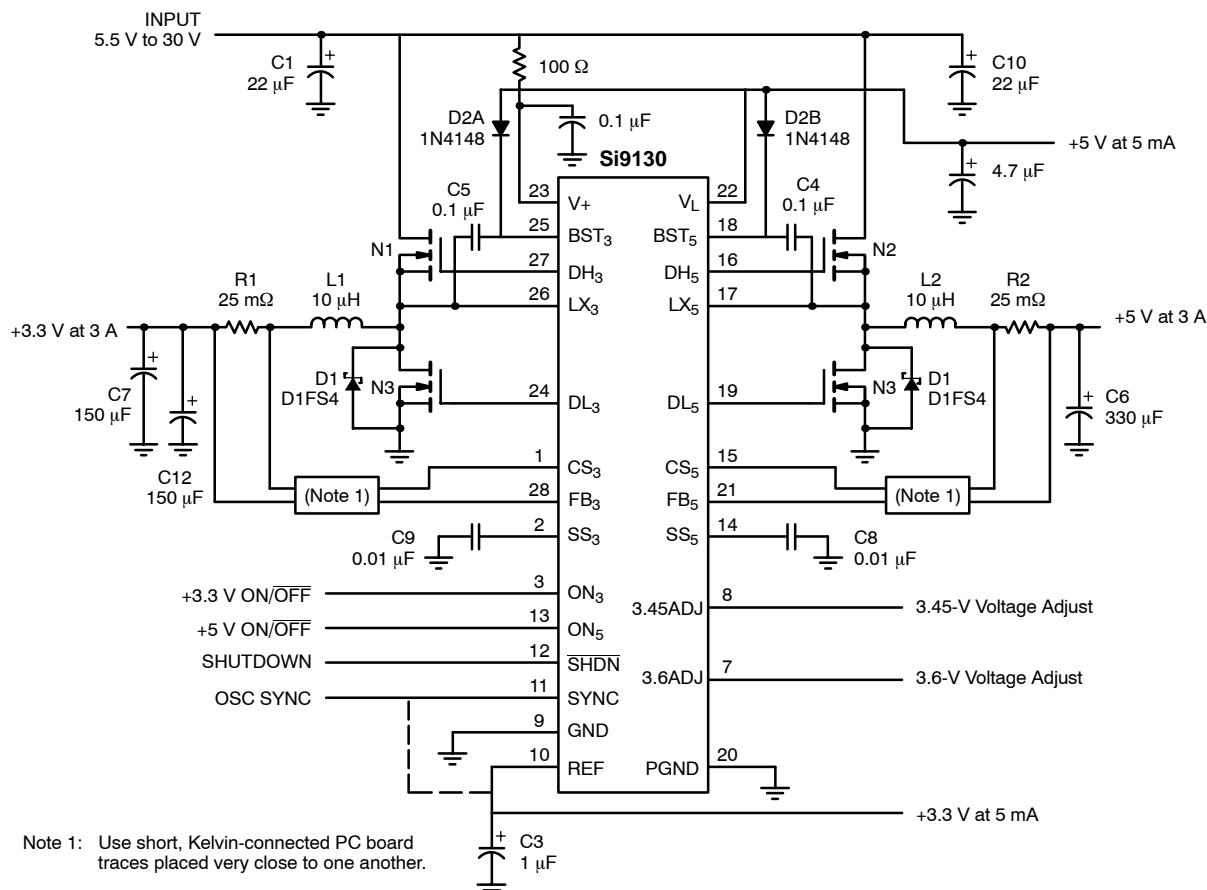
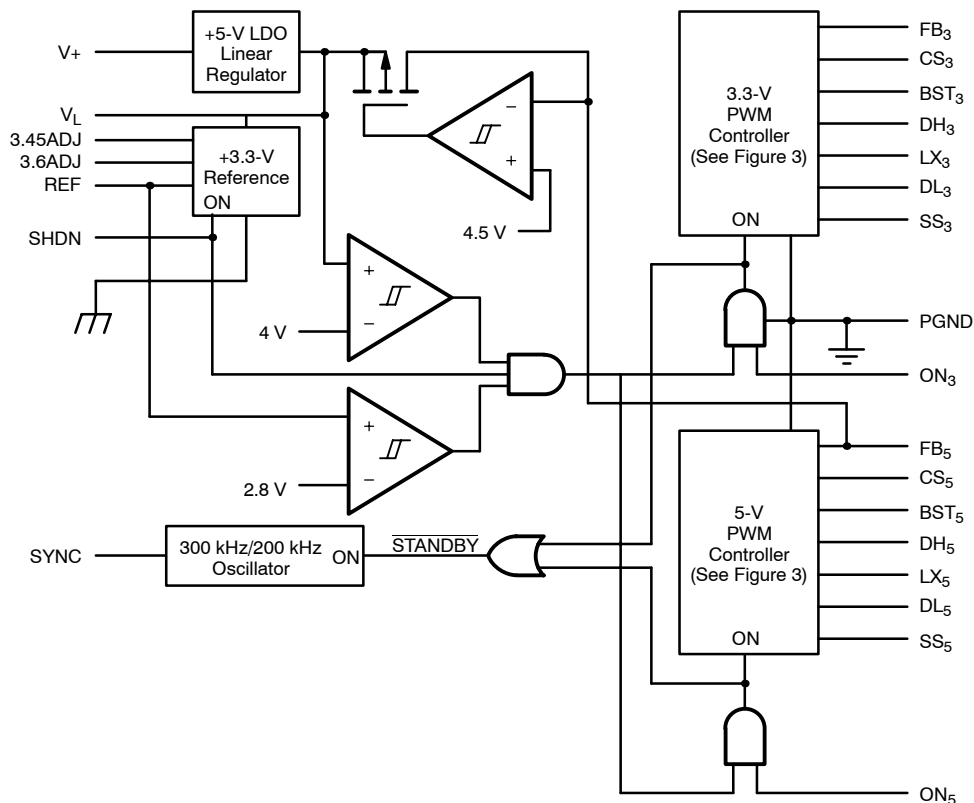

FIGURE 1. Si9130 Application Circuit
FIGURE 2. Si9130 Block Diagram
The Si9130 is a dual step-down converter, which takes a 5.5-V to 30-V input and supplies power via two PWM controllers (see Figure 1). These 5-V and 3.3-V supplies run on an optional 300-kHz or 200-kHz internal oscillator, or an external sync signal. Amount of output current is limited by external components, but can deliver greater than 6 A on either supply. As well as these two main Buck controllers, additional loads can be driven from two micropower linear regulators, one 5 V (VL) and the other 3.3 V (REF)—see Figure 2. These supplies are each rated to deliver 5 mA. If the linear regulator circuits fall out of regulation, both Buck controllers are shut down.
The 3.3-V supply is regulated by a current-mode PWM controller in conjunction with several externals: two n-channel MOSFETs, a rectifier, an inductor and output capacitors (see Figure 1). The gate drive supplied by  $DH_3$  needs to be greater than  $V_L$ , so it is provided by the bootstrap circuit consisting of a 100-nF capacitor and diode connected to  $BST_3$ .
The 5-V supply is regulated by a current-mode PWM controller which is nearly the same as the 3.3-V output. The dropout voltage across the 5-V supply, as shown in the schematic in Figure 1, is 400 mV (typ) at 2 A. If the voltage at  $V+$  falls, nearing 5 V, the 5-V supply will lower as well, until the  $V_L$  linear regulator output falls below the 4-V undervoltage lockout threshold. Below this threshold, the 5-V controller is shut off.